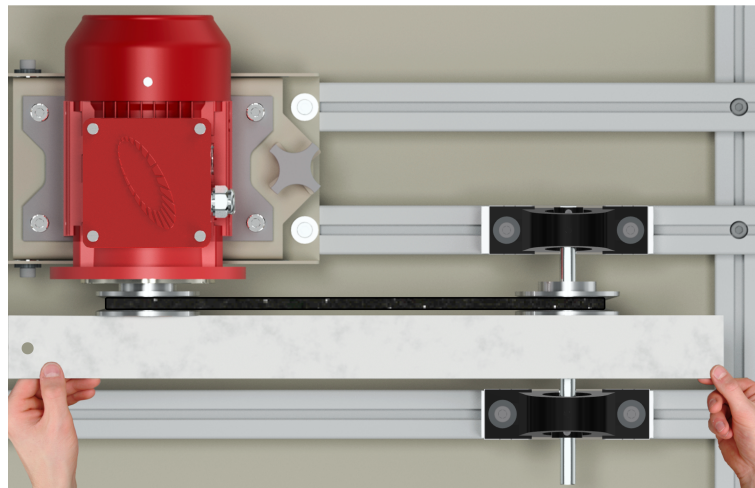

Figure 17. Parallel alignment.
24. Lay a straightedge against the face of both pulleys and move the driven pulley along the shaft until both pulleys are in contact with the straightedge as shown in Figure 17.